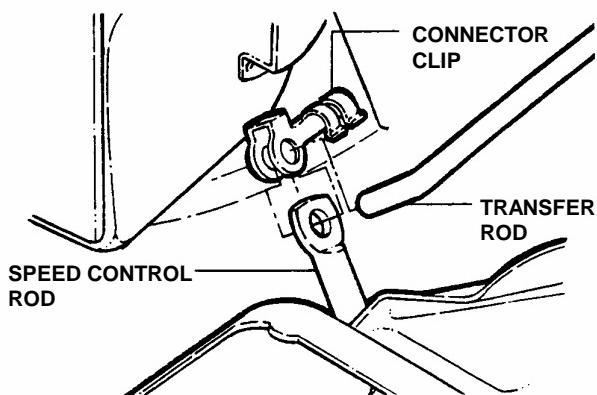

FIGURE 4.11
- Using a small flat blade screwdriver, free the clip from the transfer rod. Then remove the transfer rod from the clip and the speed control rod. See Figure 4.11.
1. Using a small flat blade screwdriver, free the clip from the transfer rod. Then remove the transfer rod from the clip and the speed control rod. See Figure 4.11.